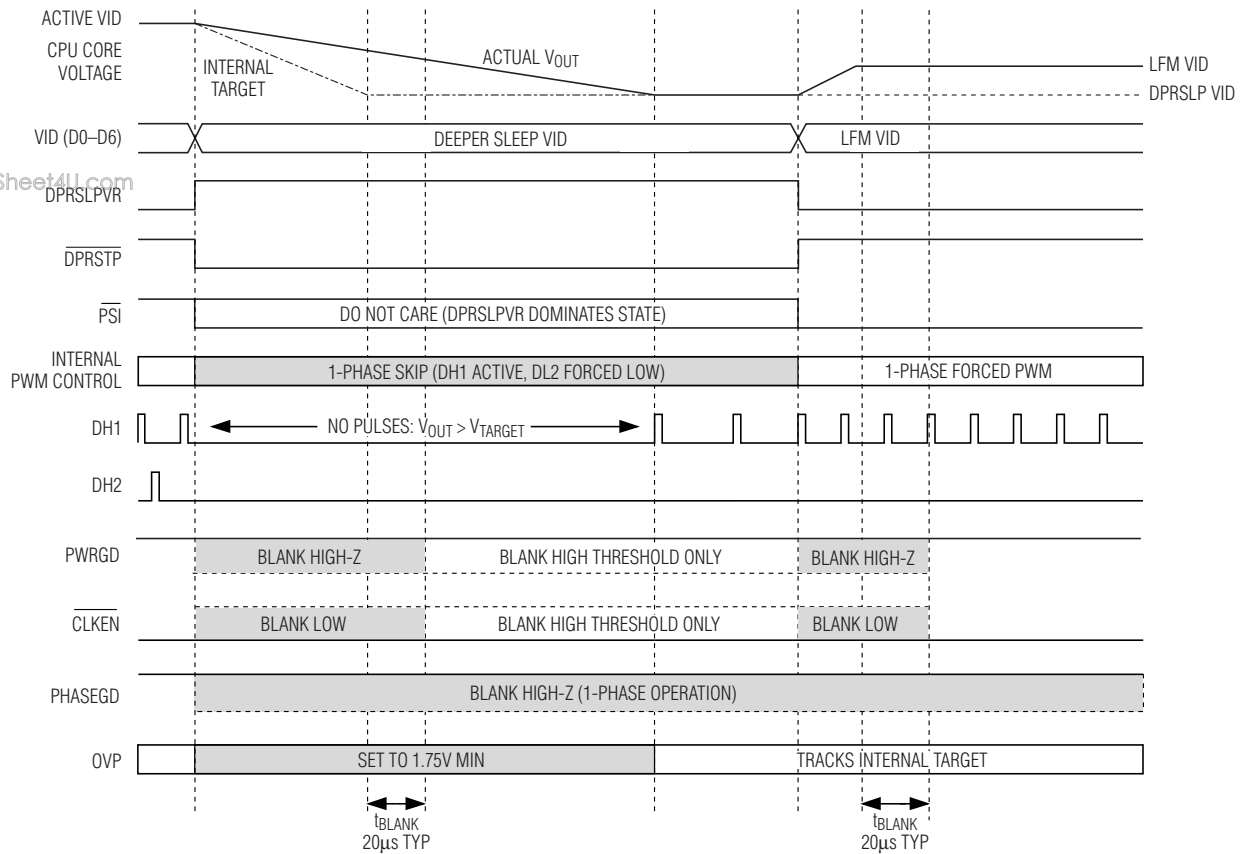

Figure 5. Standard C4 Transition
- **Standard C4 Deeper Sleep Exit:** When exiting deeper sleep (DPRSLPVR pulled low) while the output voltage is regulating to the deeper sleep voltage, the MAX8770/MAX8771/MAX8772 immediately activate all enabled phases and ramp the output voltage to the LFM DAC code provided by the processor at the slew rate set by R_{TIME} . The controller blanks PWRGD, PHASEGD, and \overline{CLKEN} (forced high impedance) until $20\mu s$ after the transition is completed. See Figure 5.